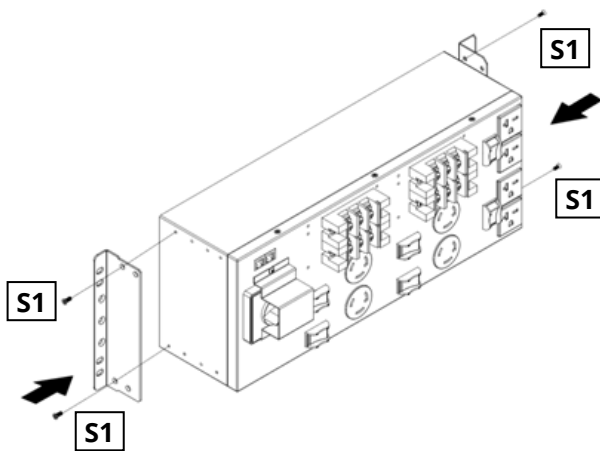

FIG. 4
1. Attach the mounting brackets to the the rear side of the MTBS BOX using the M3*6mm screws that came with the brackets. (FIG. 4)